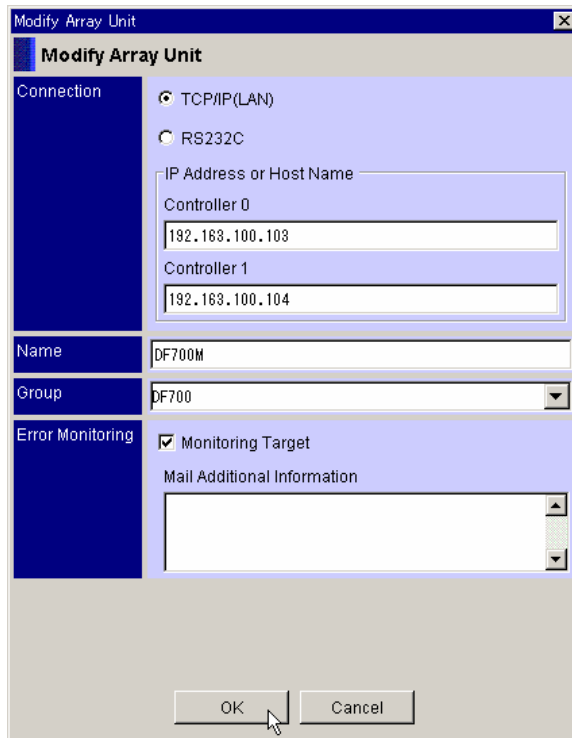

Figure 15.2 Setting Additional Information on E-Mail
- In the **Properties** window of the array unit, in the **Mail Additional Information** text box, enter the information in less than or equal to 64-byte characters (see Figure 15.2).